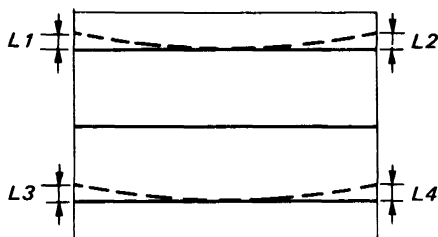

Fig. 3-40
- (15) Adjust RV5531 (V SUB SKEW (R)) so that "L1" ("L3") is equal to "L2" ("L4") as shown in Fig. 3-40.